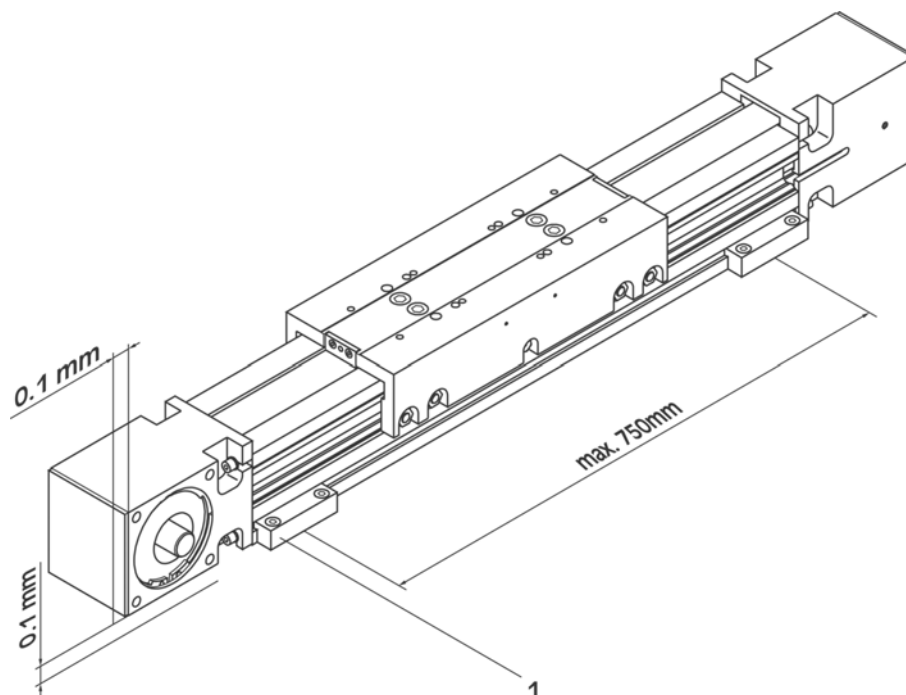

Fig. 4: Mounting WIESEL SPEEDLine®
1. **Fig. 4:** Loosen the relevant mounting bracket.